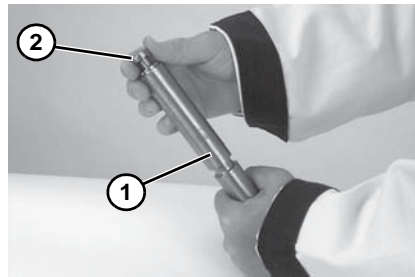

Figure 15
- Inspect spindle (**Figure 15, item 1**). Replace if worn.
- Slide bearing (**Figure 15, item 2**) onto spindle.